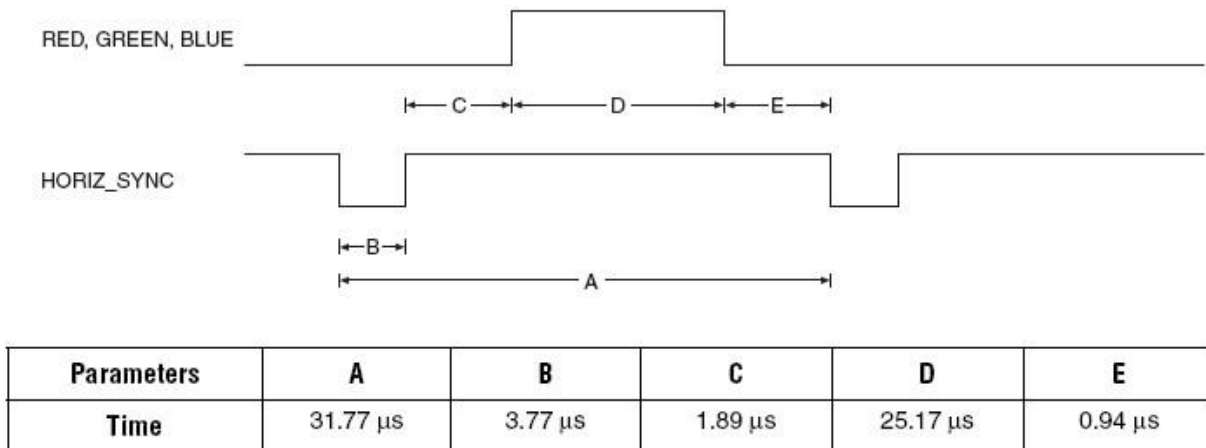
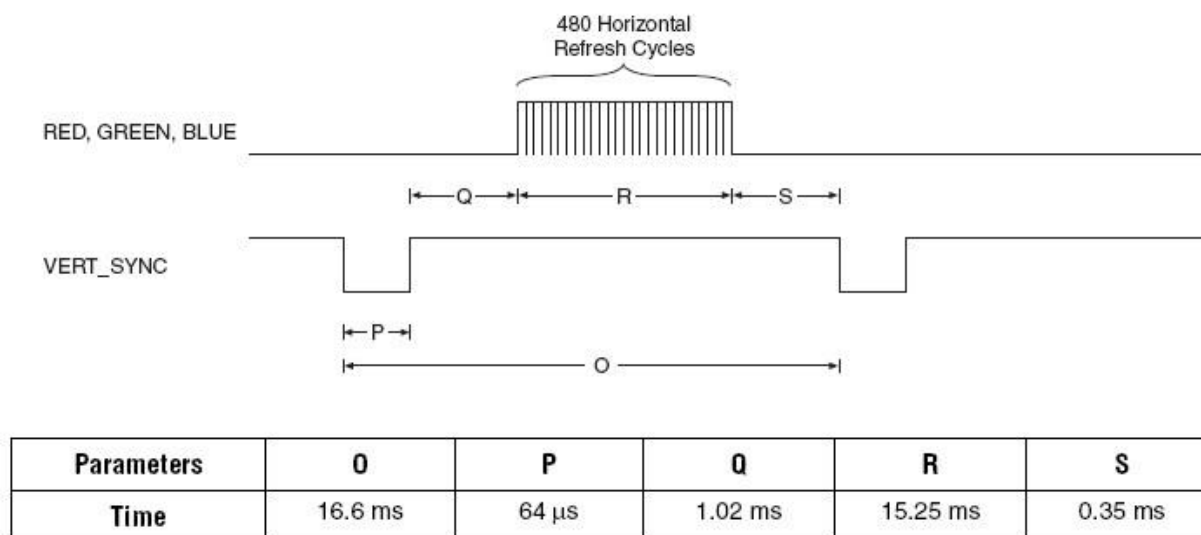

Figure 1. Horizontal Refresh Cycle.
Figure 2. Vertical Refresh Cycle.
The VGA monitor connector on the ALTERA DE10-lite board consists of five signals, RED(4 bits), GREEN(4 bits), BLUE(4 bits), `HORIZ_SYNC`, and `VERT_SYNC`. Look into the user manual for the header pin outs for these 5 signals. The timing relationships among this signal are shown in **Figures 1 and 2** at the end of this lab document. The generation of signals needed for the raster on the VGA monitor begins with dividing the frequency of the 50 MHz clock on the ALTERA DE0 board down to a 25 MHz pixel clock which is further divided down to the horizontal and vertical sync frequencies. This means your design will contain a **horizontal counter** and a **vertical counter**. The horizontal and vertical sync pulses of appropriate lengths are then produced from the two counters.
Horizontal and vertical synchronization. A video display consists of 640 pixels in the horizontal direction and 480 lines of pixels in the vertical direction. The monitor starts each refresh cycle by updating the pixel in the top left-hand corner of the screen, which can be treated as the origin (0,0) of an X–Y plane. After the first pixel is refreshed, the monitor refreshes the remaining pixels in the row. When the monitor receives a pulse on the **`HORIZ_SYNC`** pin, it refreshes the next row of pixels. The time required for the sweep, the horizontal sweep period, is nominally 31.77 μ s. This process is repeated until the monitor reaches the bottom of the screen. When the monitor reaches the bottom of the screen, a 64 μ s pulse applied to the **`VERT_SYNC`** pin causes the monitor to begin refreshing pixels at the top of the screen (i.e., at [0,0]). As shown in Figure 2, the `VERT_SYNC` pulse must be repeated every 16.6 ms (vertical sweep period). A complete screen of information is traced by the electron beam every 16.6 ms for a refresh rate of 60 Hz.
Blanking intervals. In order to accommodate the time required to move the electron beam back to the left side of the screen (horizontal retrace period) the electron beam must be turned off during the retrace time or the return trace would be visible. This is accomplished by two blanking intervals during the horizontal refresh cycle marked by B and C at the beginning of the trace and E at the end of the trace in Figure 1. Similar blanking intervals are required during vertical refresh (P, Q, and S in Figure 2). The color beams are turned on only when the horizontal counter is in the period D and the vertical counter is in period R.
- A value of zero on Hcount corresponds to the beginning of section D in Figure 1.
- A value of zero on Vcount corresponds to the beginning of section R in Figure 2.